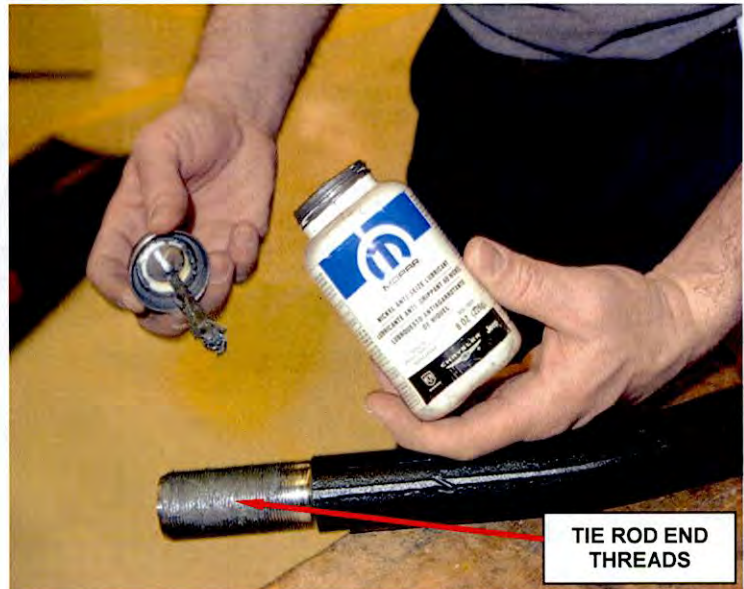

Figure 3 – Apply Light Coat of Anti-Seize
9. Apply a light coat of Mopar Anti-Seize Lubricant (P/N05012249AB) or equivalent to the threads of the new tie rod end (Figure 3).